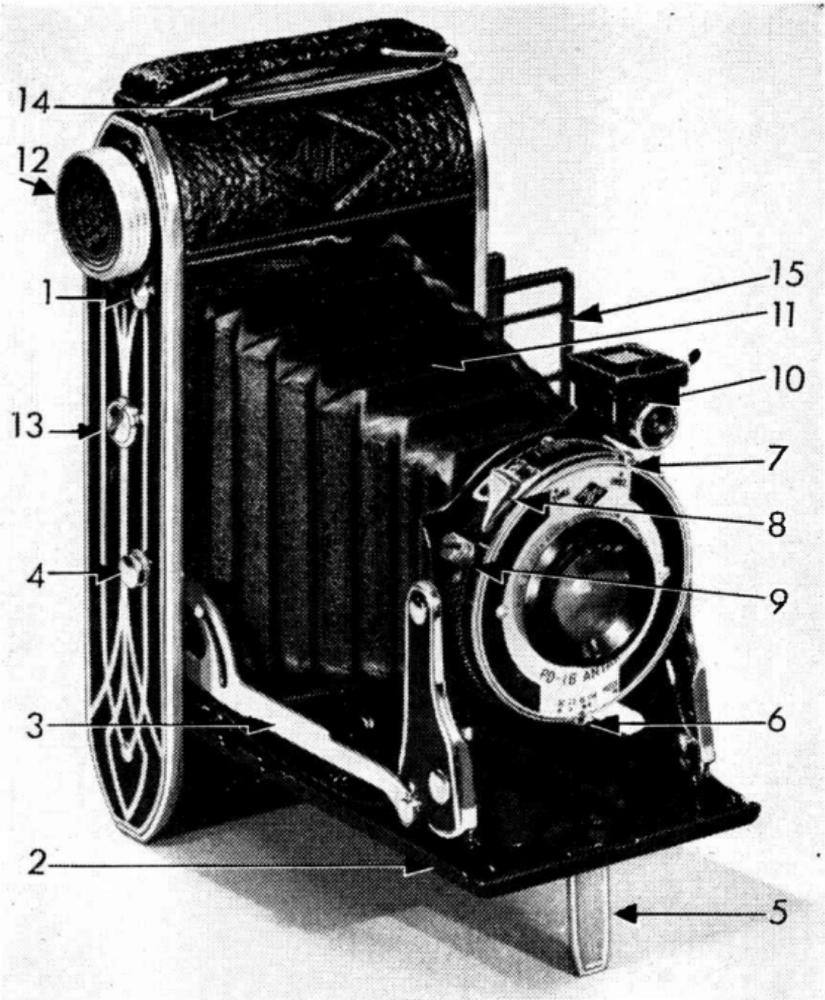
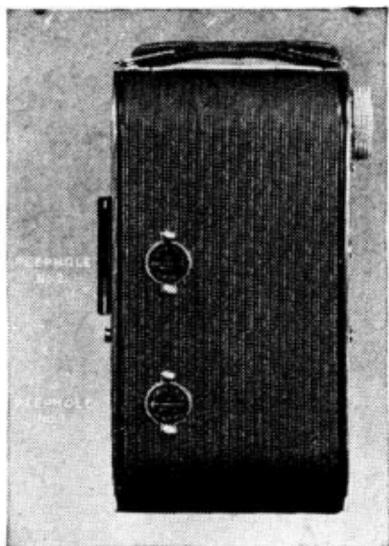

Fig. 1
Fig. 8
CHECK OVER THE CAMERA WITH FIG. 1 BEFORE YOU
To open the camera, hold it in the palm of the left hand and press the opening release button (1, Fig. 1) with the left thumb. With the right hand, pull down the platform (2) until the side-arm braces are locked firmly in place.
To set the shutter for these settings, move the pointer (7, Fig. 1) to a position directly over the desired figure. In the shutter illustration, Fig. 2, the shutter is set for instantaneous, the standard snapshot speed.
The shutter is operated, or "tripped," by the finger release (8, Fig. 1) or by a cable release if such has been added. Care must be taken when the release is pressed down in making an
This diaphragm is operated by means of the lever, (6, Fig. 1), also shown on Fig. 2 set under the numeral 22. This lever is connected with a pointer on the opposite side of the shutter which moves along a similar row of figures on the flange at the top of the shutter. Thus, the diaphragm setting may
The vertical footrest (5, Fig. 1) is for taking Time exposures when a tripod is not available. The footrest is easily extended by pulling it out at right angles to the platform, after which the camera may be set upon a table, ledge, or railing for support.
In order to use the tripod sockets (13, Fig. 1) it is necessary to remove the plug-screws first. This may be done with a small coin, after which the tripod is screwed securely into place. The screws should be replaced after removal of the tripod in order to protect the interior of the camera against dust or other foreign matter which might prove injurious to the shutter mechanism.
To load the camera, it is first necessary to open the back which is held by a catch (14; Fig. 1) at the top under the handle.
Swing open the No. 1 Peephole cover (Fig. 8), and continue turning the winding knob slowly until the figure 1 appears in this lower peep hole. An indicating hand and row of dots will be seen shortly before the first figure appears in place. The camera is now ready for the first picture.
Where fifteen half-size exposures are desired and the masking frame has been left in the camera, both the No. 1 and No. 2 peepholes are used. The first exposure is made with the figure 1 at the lower window. After a picture has been made with the film in this position, the winding knob is then turned very slowly (only about one full turn of the knob is neces-
sary) until the figure 1 appears at the upper or No. 2 peephole. For the third exposure the figure 2 is at the lower window, for the fourth it is moved to the upper, and so on until all fifteen exposures have been made. Do not make an exposure when figure 8 appears at the upper window.